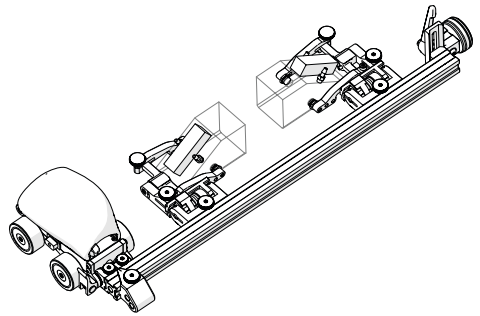

Fig. 16 - Assemble configuration
2. Assemble the appropriate configuration to the cart body (Fig. 16). Install the wedge and probes that will be used (see Slip Joint Probe Holder on page 24).